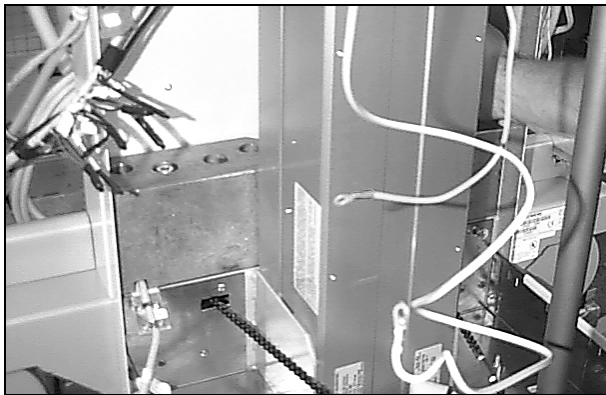

Fig. 18
- Connect the footswitch cable to board D3 and secure it with the strain relief (Fig.18).